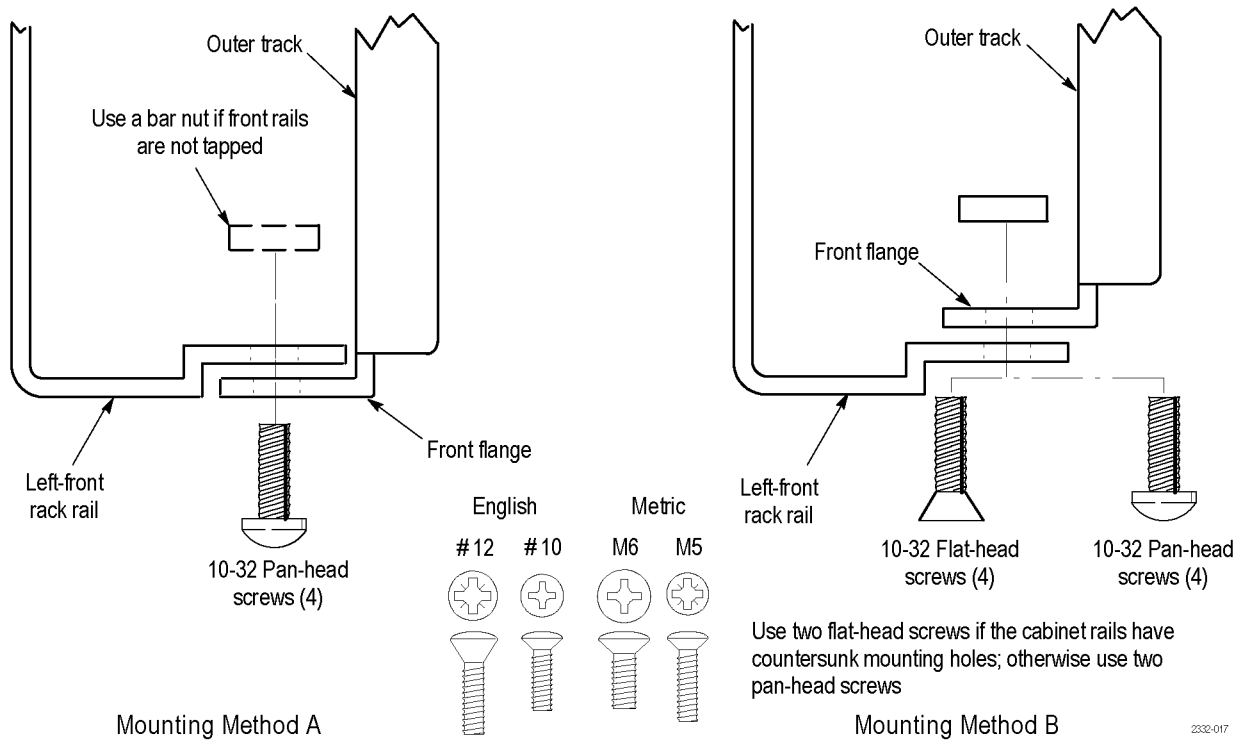

Figure 4: Installation of slide-out track assemblies in rack (top view)
- To mount the slide-out tracks with their front and rear flanges outside of the front and rear rails, use the mounting method A. (See Figure 4.) Add a bar nut to the installation only if the rails have untapped holes.
- To mount with front and rear flanges inside of rails, use the mounting method B. (See Figure 4.) This mounting method assumes untapped holes.